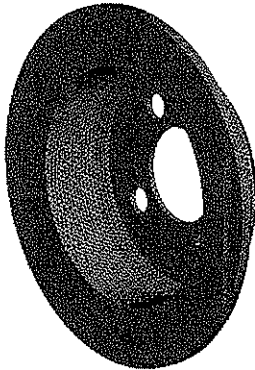

Figure 11-6 Mesh generated with the modified settings
- 8. Choose the **Update** tool from the **Mesh** contextual toolbar; the mesh is generated with the modified settings, refer to Figure 11-6.